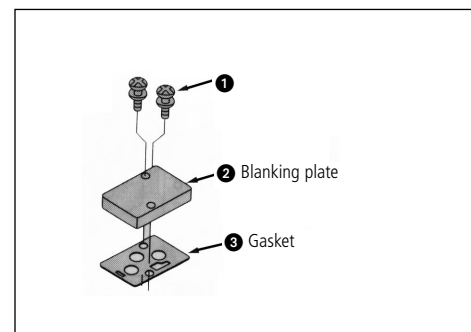

Fig 11
Fitting blanking plate (Fig 11)
- Fit blanking plate gasket 3 (Fig 11).
- Fit blanking plate 2 (Fig 11).
- Fit blanking plate holding down screws 1 (Fig 11).